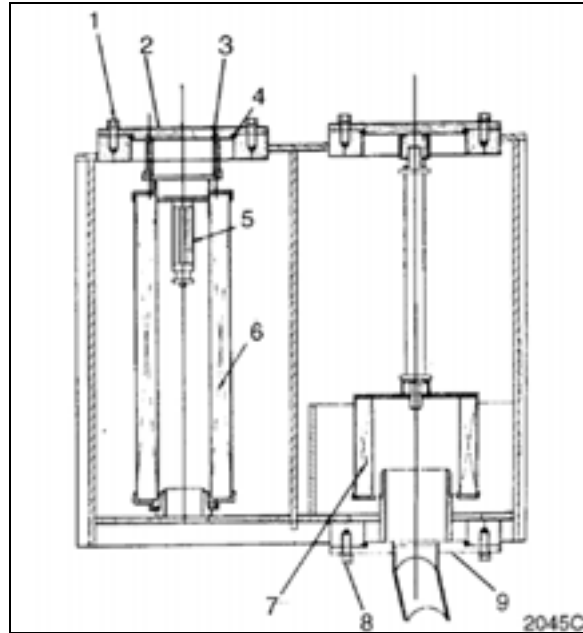

Figure 55
2. Clean filter cover (2, Figure 55) and reservoir around cover.
3. Remove bolts (1, Figure 55) from cover (2).
4. Lift cover (2, Figure 55) and O-ring (4) off reservoir. Control spring (3) that sits beneath cover. Remove spring (3).
5. Remove valve (5, Figure 55) and filter element (6) from reservoir.
6. Clean underside of cover (2, Figure 55).
7. Set a new element (6, Figure 55) and valve (5) down into reservoir. Press element down onto its base until top of element is approximately 4 mm (0.157") below edge of reservoir.
8. Install a new O-ring (4, Figure 55) on cover (2). Set spring (3) into place on element (6).
9. Set cover (2, Figure 55) into place over element (6). Install bolts (1) through cover (2) and tighten them.